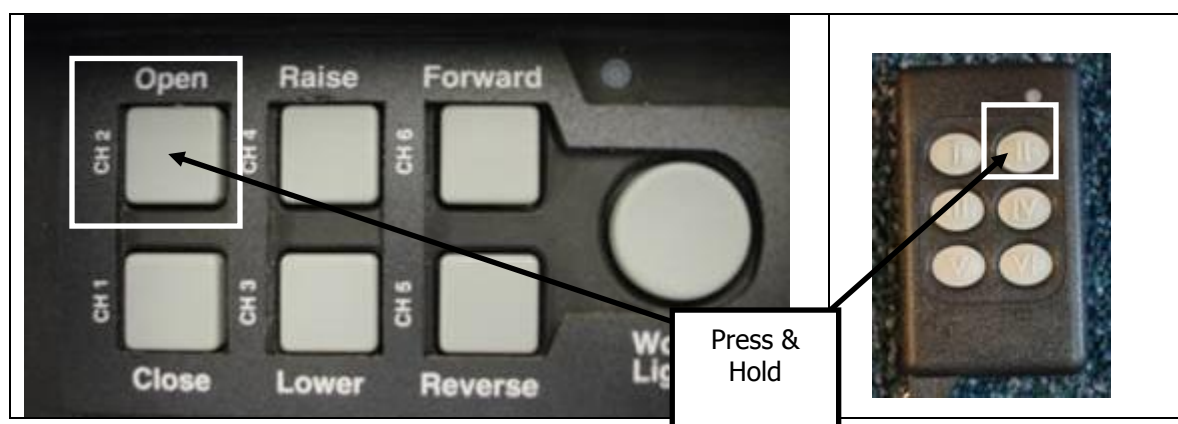

Figure 12
- 3) Deploy tarp and walk tarp to rear of container. To deploy tarp press & hold button 1 on the control box or the key fob (see Fig. 12), or on non remote systems there will be switch to wind and unwind your tarp. In rare cases with stationary pivot systems you may have to do this before pulling container all the way onto the truck/trailer.